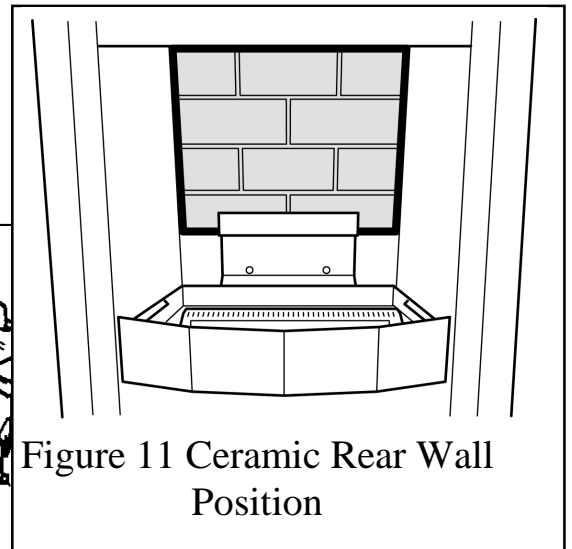

Figure 11 Ceramic Rear Wall Position
1. Fit the ceramic rear wall into the bracket at the back of the firebox. See figure 11.